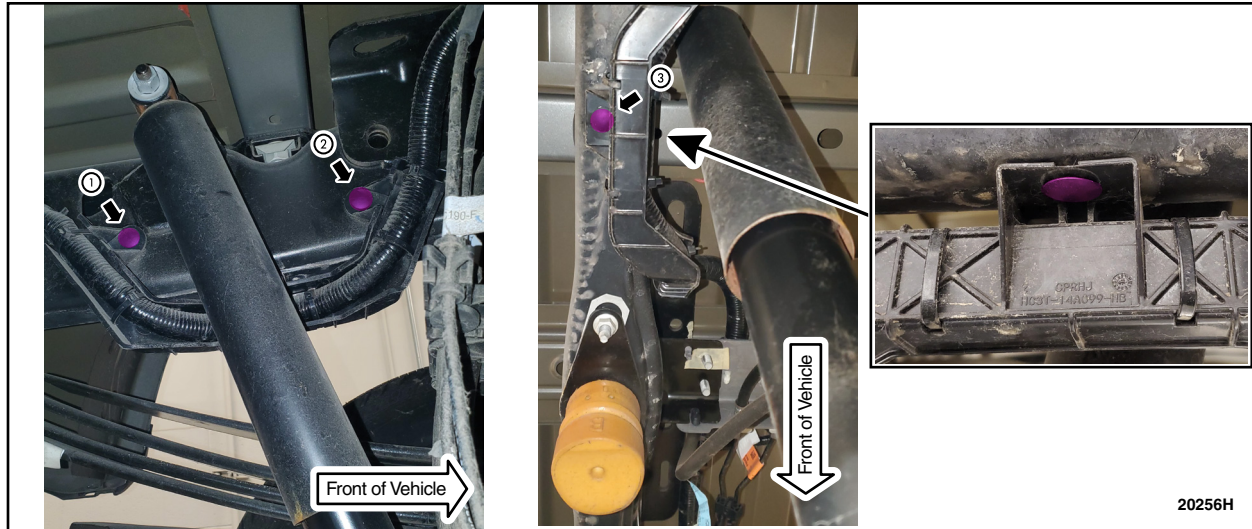

FIGURE 9
13. Remove the three push-pin retainers that are connecting the harness to the frame on the left side of the brake line bundle. See Figure 9.